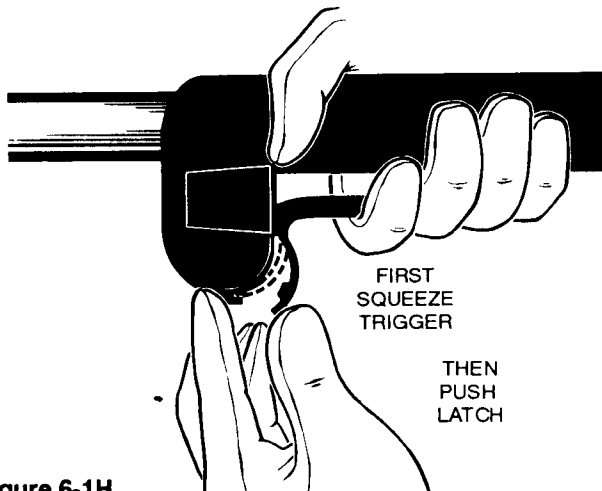

Figure 6-1H
**NOTE:** Your unit is equipped with a throttle advance which also can be used during starting. (Figure 6-1H)